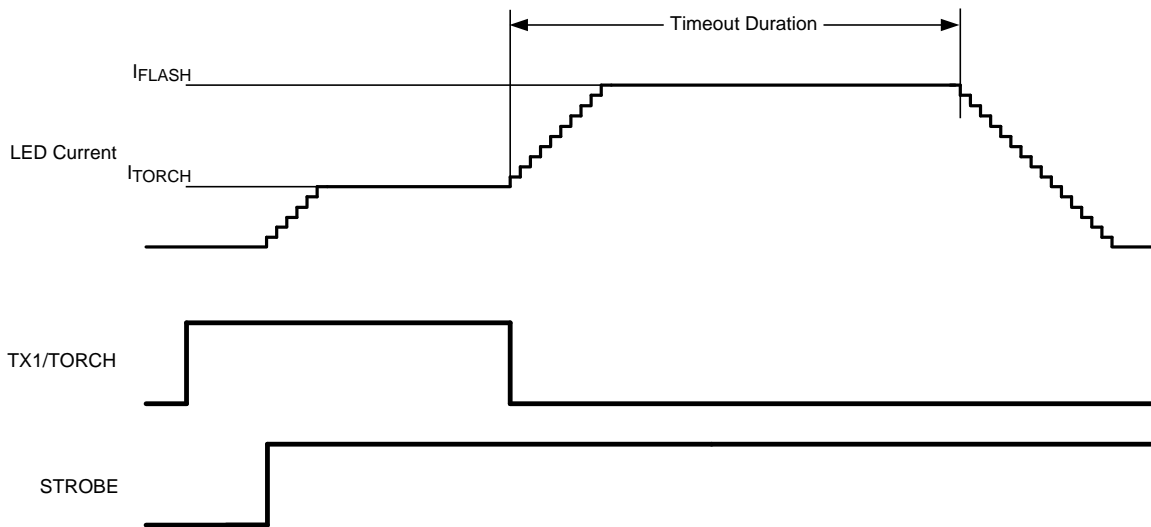

Figure 11. AET Mode Timing
With Configuration Register 2 bit [2] set to (1) the LM3559 is configured for AET mode and the operation of TX1/TORCH becomes dependent on its occurrence relative to the STROBE input. In this mode, if TX1/TORCH goes high first, then STROBE goes high next, the LEDs are forced into Torch mode with no timeout. In this mode, if TX1/TORCH goes high after STROBE has gone high, then the TX1/TORCH pin operates as a normal LED current interrupt and the LEDs will turn off at the end of the timeout duration (see Figure 11 for a detailed operation of this mode).